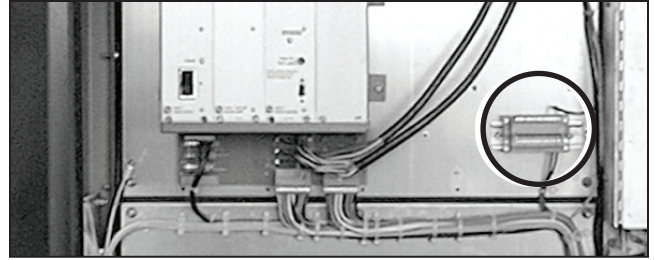

Figure 62. Attach ground wires to terminal block.
- (f) There will be up to three pairs of ground wires, VS-G1 and VS-G2, included in the main enclosure. See the wiring diagram for details. Disconnect the ground wires from the temporary grounding leads and route them into the low-voltage enclosure. Attach the ground wires to the terminal block specified in the drawings provided, and fully tighten the set screws. Figure 62 on page 37.